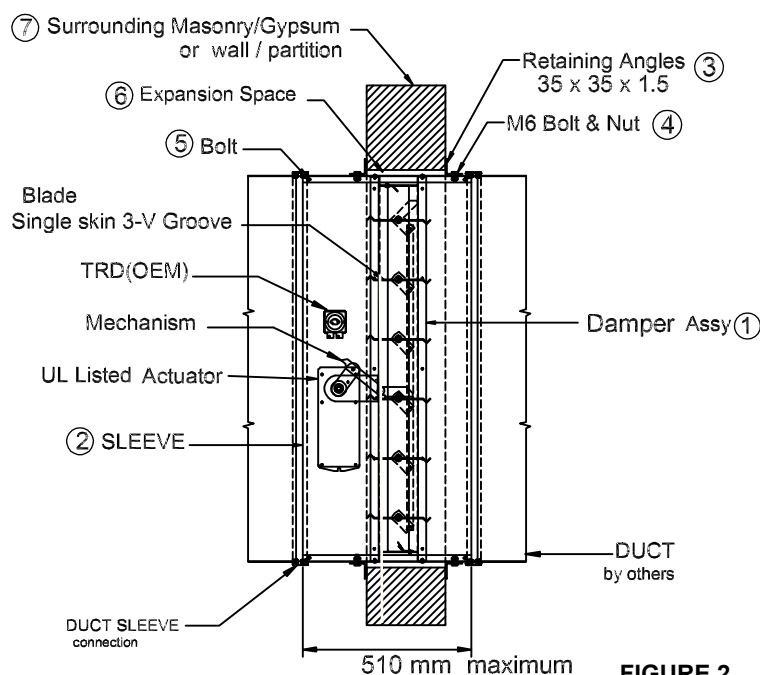

FIGURE 2
- 1) The damper (1) should be installed vertical, centrally and resting on the bottom opening within the surrounding masonry / gypsum wall (7). Actuator should be out of wall / gypsum partition as shown in (figure 2).
- 2) The damper (1) should be installed in a rectangular galvanized steel sleeve (2) with a minimum thickness of 1.1mm. This sleeve should be attached to the damper using M6 bolts (5) and spaced at not more than 110 mm centers and 30 mm from corners.
- 4) The sleeve (2) should be of suitable length to extend through the wall to enable the fitting of the cover angles and ductwork. Minimum of 90mm from the wall and total depth of the sleeve should not exceed more than 510mm.
- 5) The retaining angles (3) should be attached to the sleeve by 6 mm dia (4) bolts at a maximum of 110 mm centers, and should form a complete frame around the sleeve and cover over the expansion space (6) required between sleeve and wall opening. The four corner of the retaining angles are not to be welded. The bolts connecting the retaining angles to the sleeve to be 30 mm maximum from the corners. Retaining angles will be send in loose parts. Note: The retaining angles bolts should be out of the area of the damper frame.
- 6) The retaining angles (3) should be of such a size as always to form an overlap with the wall by 25mm minimum and should be manufactured from a minimum size of 35 x 35 x 1.5mm GI.